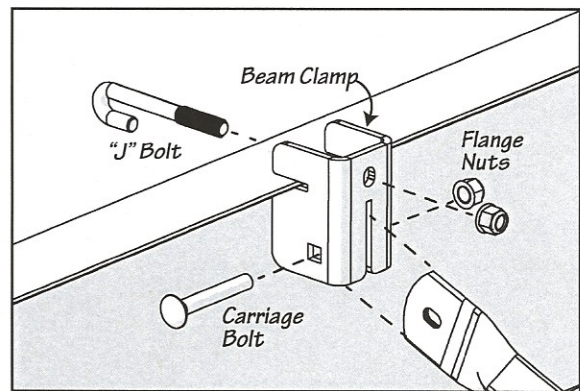

Fig. 6-3
- Slide the beam clamp over the "J" bolt end passing through the top of the beam clamp and slide the clamp over the i-beam frame as shown in Fig. 6-3. Attach flange nut over the "J" bolt and loosely tighten nut.
- Align/insert the lateral strut end in the mounting slot on the bottom of the beam clamp as shown in Fig. 6-3.